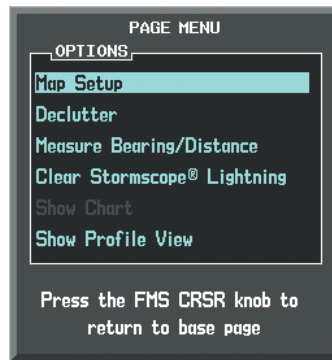

Figure 6-84 Navigation Map Page Menu
- 2) With 'Map Setup' selected (Figure 6-84), press the **ENT** Key.